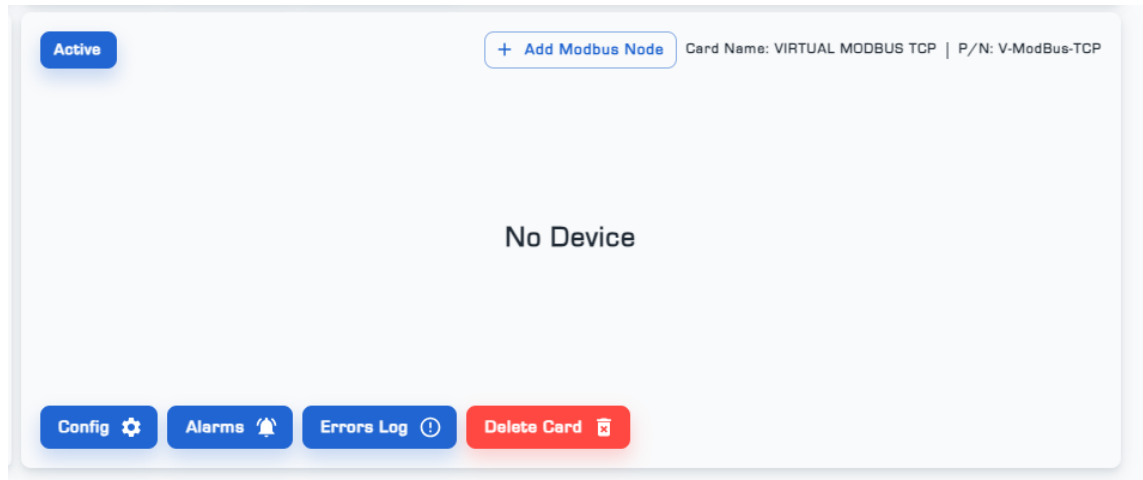

Figure 38: Display of the virtual ModBus TCP card on the 'Cards List' page
Doing so will display the details of the virtual ModBus TCP card on the 'Cards List' page (Figure 38).
- (1) In Figure 38, click on the '+ Add Modbus Node' option.